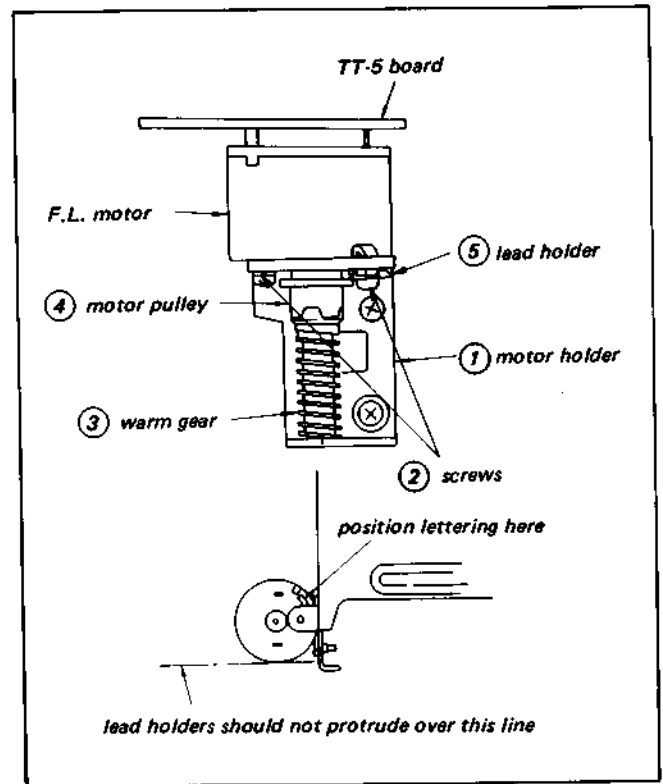

Fig. 3-41. Replacement of F.L. motor (1)
3-14-4. Replacement of Front Loading Motor (See Fig. 3-41) (See item 3-5 for removal of front loading assembly)
- 2) Remove the two screws ② from the motor holder ① and remove the motor assembly.
- 3) Install so that the worm gear ③ and motor pulley ④ are engaged, and so that the lettering on top of the motor is on the inside. At this time also tighten the lead holder ⑤ so that it cannot be seen outside the motor when viewed from the front.